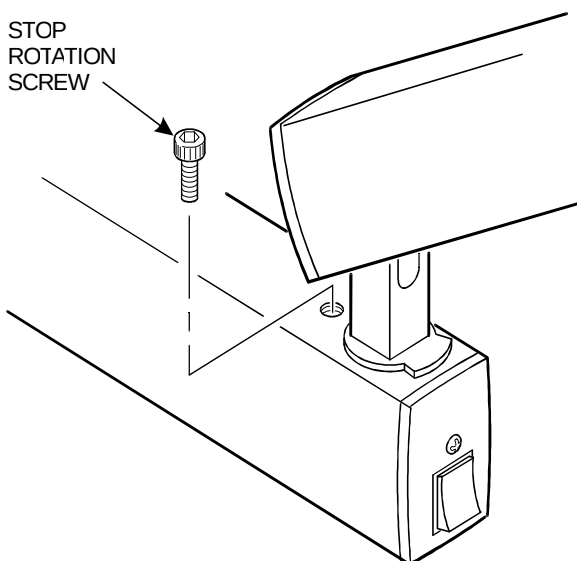

Figure 6
1. Screw the stop rotation screw in to place using the 3/16" allen wrench provided. (See Figure 6).